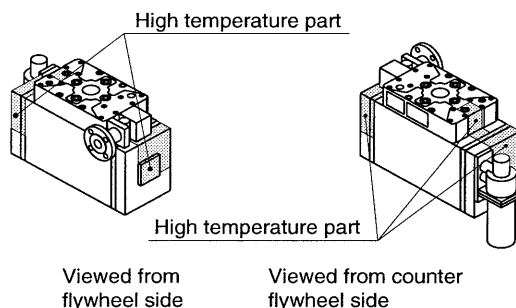

Fig. 5
* **During operation and just after the compressor has stopped, never touch the cylinder head and cooler cover that become very hot. (Fig. 5)**